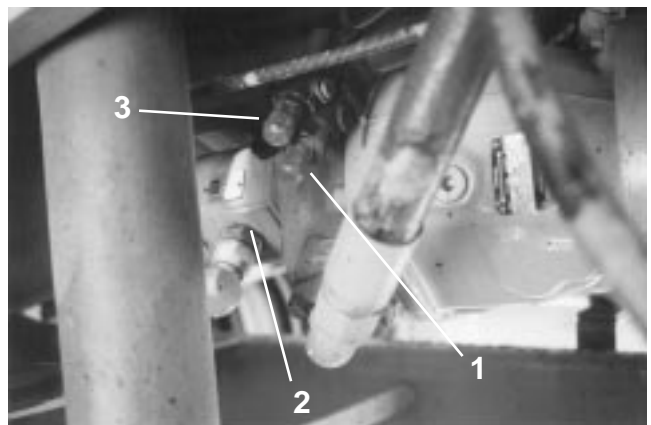

Figure 43 Pumps
3) To make an adjustment, use a 17mm wrench to remove protective cap from set screw. The standby pressure adjustment is the higher adjustment of the two adjustments at the rear of the pump (Fig 43, Ref 3). Loosen the jam nut on the rear pump and turn the set screw until the pressure reads 450 psi on the gage. Replace protective cover once correct pressure is set. Tighten the jam nut. Shut the engine off.